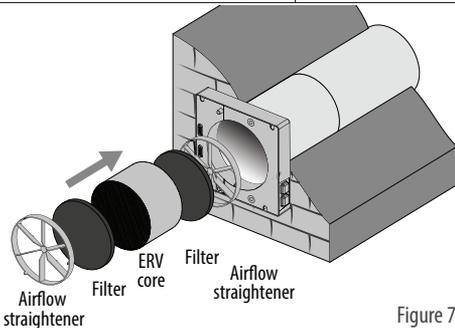

Figure 7
8. Consecutively install airflow straightener, filter, ERV core, second filter, and second airflow straightener (Figure 7).